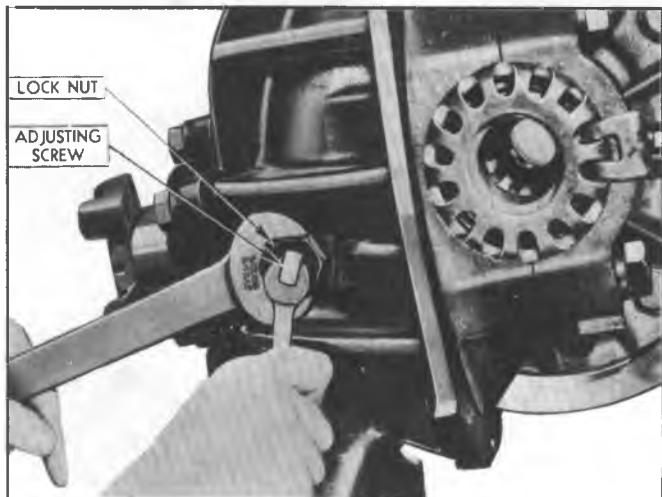

Fig. 11G—Ring Gear Thrust Pad Adjustment
3. Back off screw one-twelfth (1/12) turn and tighten locknut to specifications. See Figure 11G.